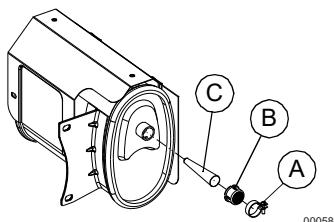

Figure 4-5. Spark Arrestor Screen
1. See **Figure 4-5.** Loosen clamp (A) and remove screw.
2. Inspect screen (B) and replace if torn, perforated or otherwise damaged. If screen is not damaged, clean with commercial solvent.
3. Replace spark arrestor cone (C) and screen (B). Secure with clamp and screw.